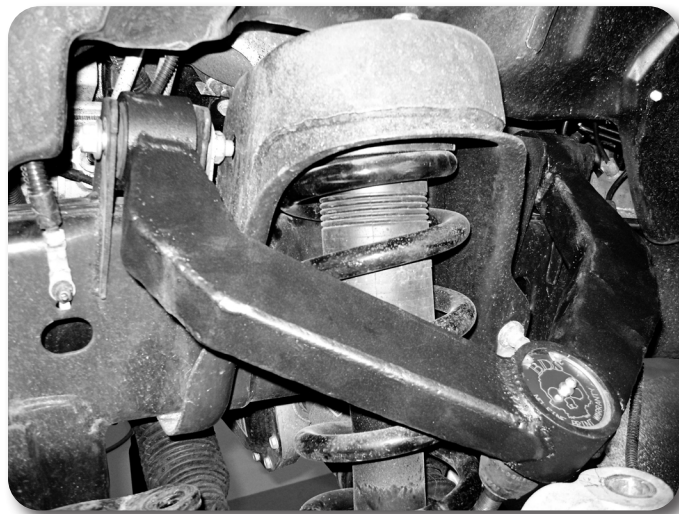

Figure 4
16. Grease the upper control arm assembly once installed. Fig. 4